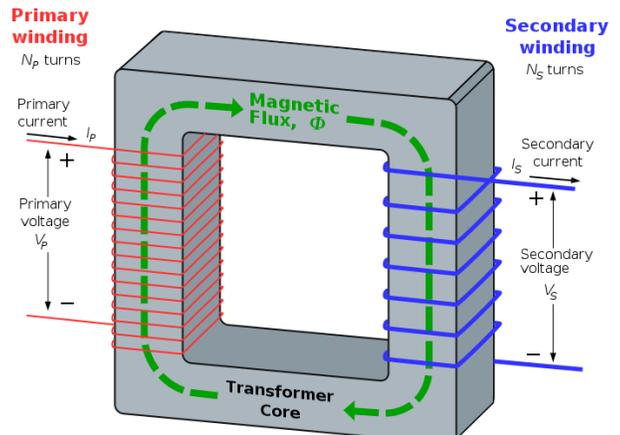
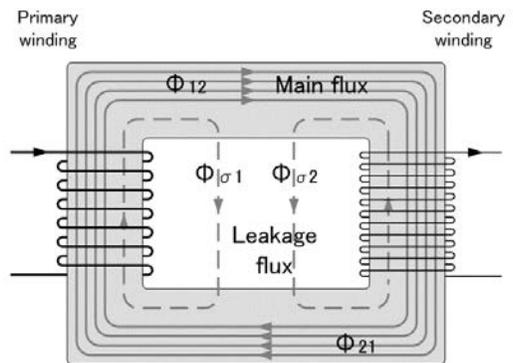

Fig. 4
Fig. 5
The operation of a transformer is really quite simple, and is the reason why transformers are cheap, robust and efficient. Refer to Fig 5 below.
Fig 4 illustrates how a simple transformer works.
In actual fact not all the flux produced by the primary winding will link with the turns in the secondary coil. Some of it leaks away, as shown in Fig 5. This is known as flux leakage and is largely dependent on how closely the two coils can be situated together. Leakage flux results in a slight (maybe 3% - 5%) reduction in
12. You should get a reading of approximately 13.5 or 14 volts or a little less. Why is this? It is because in the smaller coil, there will be $(8 \text{ volts}/150 \text{ turns}) = (0.053 \text{ volts per turn})$. On the basis of what we have seen above, and assuming that all lines of magnetic flux link equally with the all the turns in both coils, (See Fig 4) then the voltage induced in the larger coil would be $(300 \text{ turns} \times 0.053 \text{ volts per turn}) = 16 \text{ volts}$. In actual fact you will probably only get about 13.5 or 14 volts. The first problem here is that not all the flux produced by the primary coil links with the turns of the secondary coil. See Fig. 5 and "leakage flux". Another problem is that our transformer has numerous air gaps and holes in it. As we have seen, it takes roughly 15,000 times as much "electromotive force" to produce a given flux in air as it does in good quality steel. A second and equally significant limitation is that we have absolutely no way of knowing the quality of the steel we have used in our core and how close it may be to its'